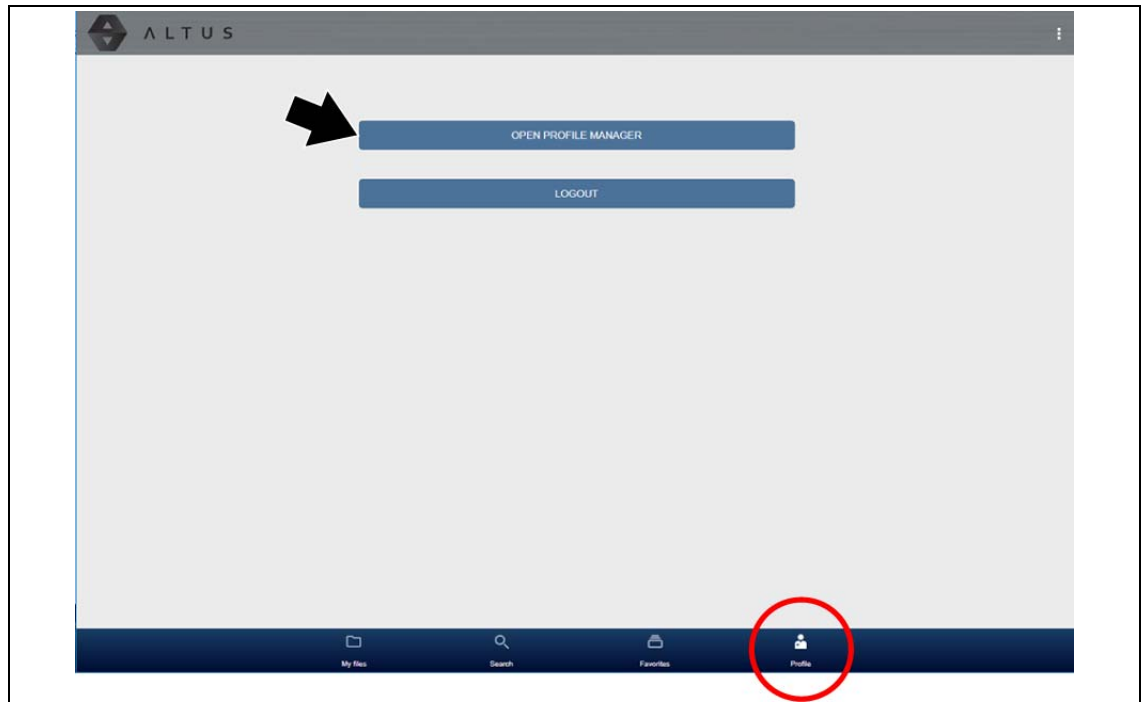

Figure 8-14
- Open Profile Manager (Figure 8-14), see Using Profile Manager on page 53
To open the Profile Manager screen, select **Profile** from lower toolbar, then select **Open Profile Manager** (Figure 8-14).